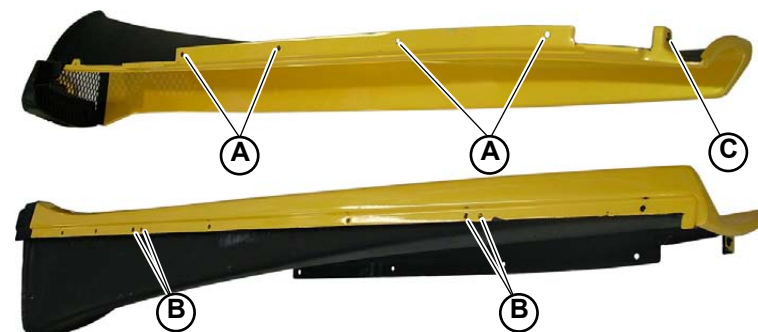

Fig.6
1. Tighten the 4 screws (**A-Fig.6**) on the upper part of the side member.
2. Tighten the 4 screws (**B-Fig.6**) on the lower part of the side member onto the 2 relative support brackets.
3. Tighten the screw (**C-Fig.6**) at the front of the side member.